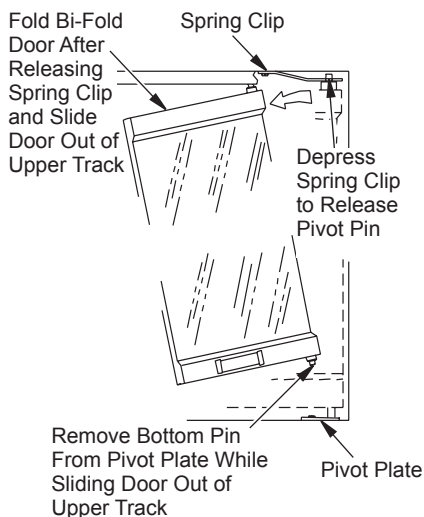

Figure 33 - Removing Glass Doors
2. Fully fold frame assembly and slide upper edge towards center of firebox opening until guide pins are free of frame rail (see Figure 33).